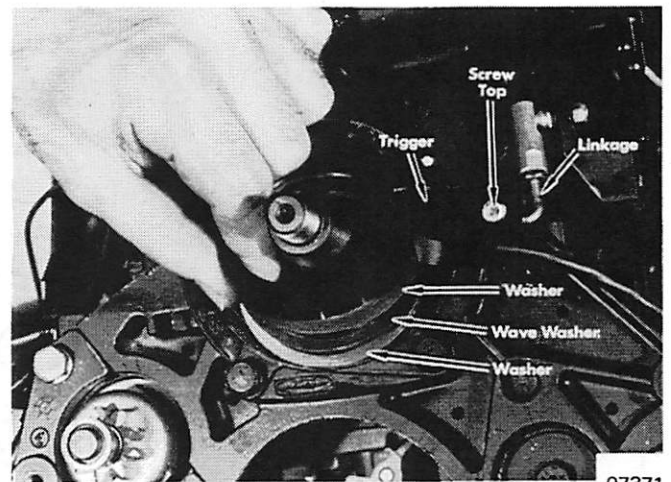

Figure 3. Removing Trigger
- a. Trigger is spring-loaded to open position. Remove linkage from trigger by removing screw on bottom of trigger. (Figure 3) Remove trigger.
- b. Remove washer, wave washer and washer. (Figure 3)
1. Install washer, wave washer, washer and trigger onto end cap. (Figure 3)